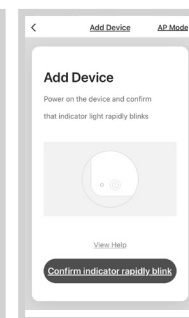

Fig. 8
4. Confirme "Confirm indicator rapidly blink" (Fig. 8).